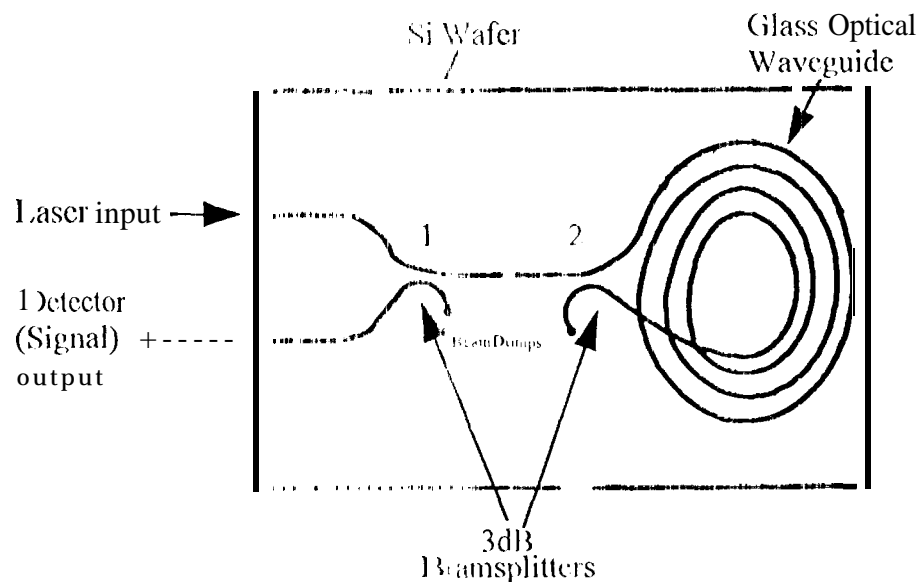

Figure 1. IORS Top View
Integrated Optic Rate Sensor (IORS) is a micro optical waveguide on a rectangular silicon wafer. The optical waveguide is sputtered glass on silicon wafer utilizing an e-beam formed mask for waveguide fabrication. Figure 1 and 2 provide top and side views of the IORS.
1. Laser light is coupled into optical waveguide and propagates to beamsplitter 2. (See figure 1.) Beamsplitter 2 splits the light equally, thus two beams propagate in opposite directions in the spiral waveguide. Counter-propagating light recombines at beamsplitter 2 and propagates to beamsplitter 1. Beamsplitter 1 splits the light equally; one-half the light returns to the optical source input (unfortunately) and one-half is coupled to the photodetector. The device measures rate of rotation utilizing the "Sagnac effect", where the rotation rate input axis is perpendicular to the plane of the spiral waveguide.